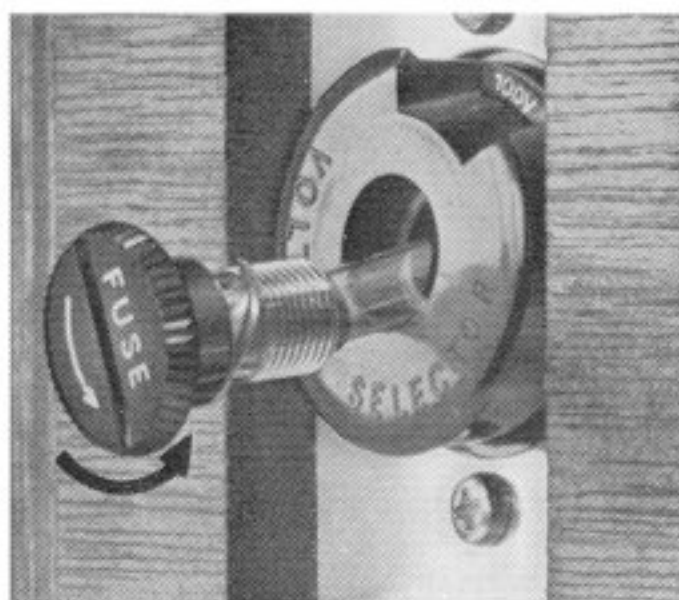

Fig. 4
- (1) Remove the FUSE POST ③⑥ as shown in Fig. 4. Remove the PLUG of VOLTAGE SELECTOR ③⑦ and reinsert so that the desired voltage appears.